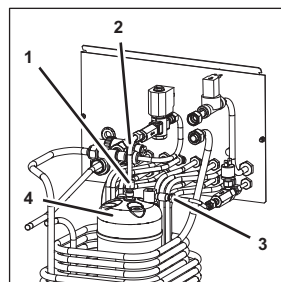

Figure 68
11. Disconnect the connecting line from the non-return valve of the solenoid valve (Figure 68/2) to the carbonator tank (Figure 68/4) from the coupling (Figure 68/1).
12. Disconnect the CO₂-IN line from the coupling (Figure 68/3).
21. Attach the CO₂-IN line to the coupling (Figure 68/3).
22. Attach the connecting line from the non-return valve of the solenoid valve (Figure 68/2) to the carbonator tank (Figure 68/4) to the coupling (Figure 68/1).